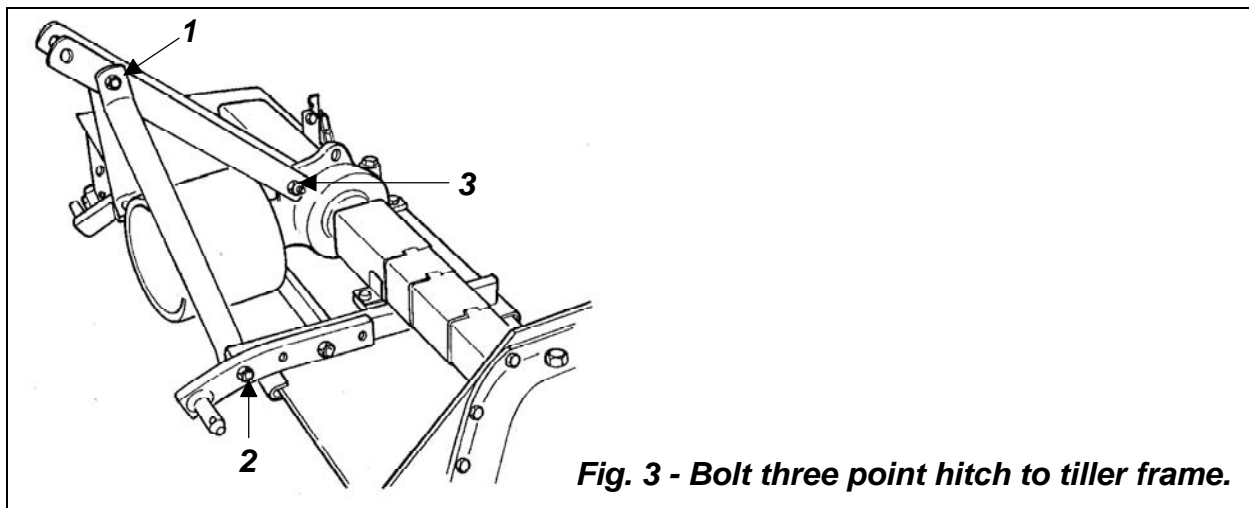

Fig. 3 - Bolt three point hitch to tiller frame.
3. Bolt the hitch together (**see fig. 3**), and bolt it to the tiller⁴.